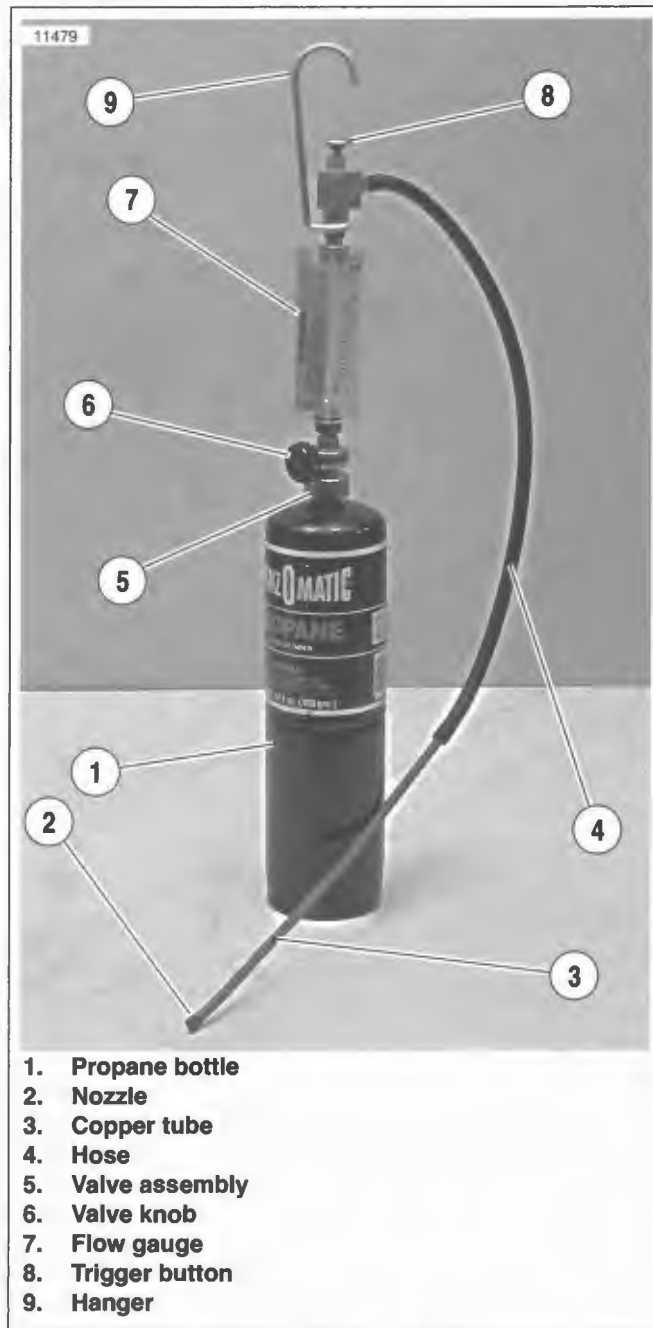

Figure 4-64. Leak Tester
1. See Figure 4-64. Make sure valve knob (6) is closed (fully clockwise).
2. Screw valve assembly (5) onto propane bottle (1).
1. See Figure 4-64. Press and hold trigger button (8).
2. Slowly open valve knob (6) until pellet in flow gauge (7) rises to between 5 and 10 SCFH on gauge.